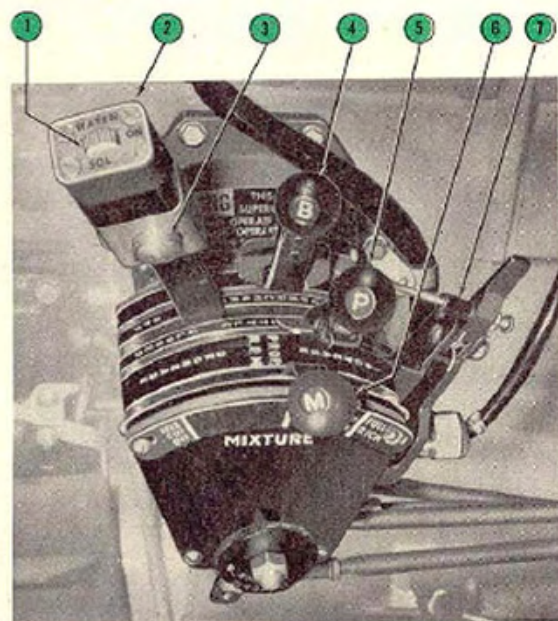

Figure 6—Engine Control Quadrant
c. The Hamilton Standard Hydromatic propeller is controlled by a propeller lever (5, figure 6) on the control quadrant.
b. Power controls are mounted in the conventional quadrant and consist of throttle, boost, mixture, and propeller levers. Throttle, boost, and propeller levers are equipped with spring-loaded latches to permit interconnected operation. An adjustable take-off stop, which can be bypassed, is provided in the path of the throttle. A momentary switch (1, figure 6) is mounted on the throttle lever to control operation of the water injection system.
b. The quantity of supercharged air directed to the carburetor is determined by the setting of the booster lever on the engine control quadrant. (See figure 6.) This lever sets an engine-oil operated regulator which is balanced against exhaust pressure. When engine exhaust pressure drops, the supercharger regulator closes a waste gate in each exhaust pipe, which permits more of the engine exhaust gases to be directed against the turbine wheel of the supercharger, thus maintaining boost.
The water injection system permits operation at War Emergency Power of 64 in. Hg. manifold pressure and approximately a 30 per cent increase over military horsepower. The system consists of a 30 US (25 Imperial)-gallon supply tank, an engine-driven pump, a water regulator, a derichment valve assembly, and an automatic booster-reset mechanism. The system is controlled by a momentary switch (1, figure 6) on the throttle lever which opens a solenoid valve admitting water to the regulator which meters it to the engine. At the same time, water pressure actuates the booster-reset mechanism which increases manifold pressure. Ambient temperatures in the engine compartment prevent freezing of water supply when the engine is running and in flight; however, if the